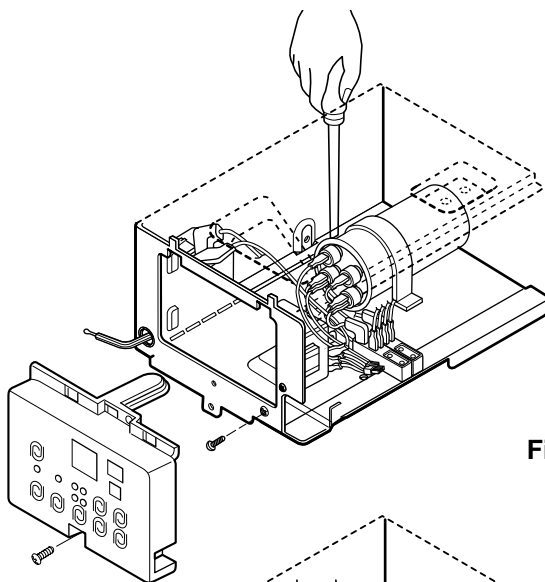

Figure 24
7. Re-install the components by referring to the removal procedure, above. (See Figure 24)